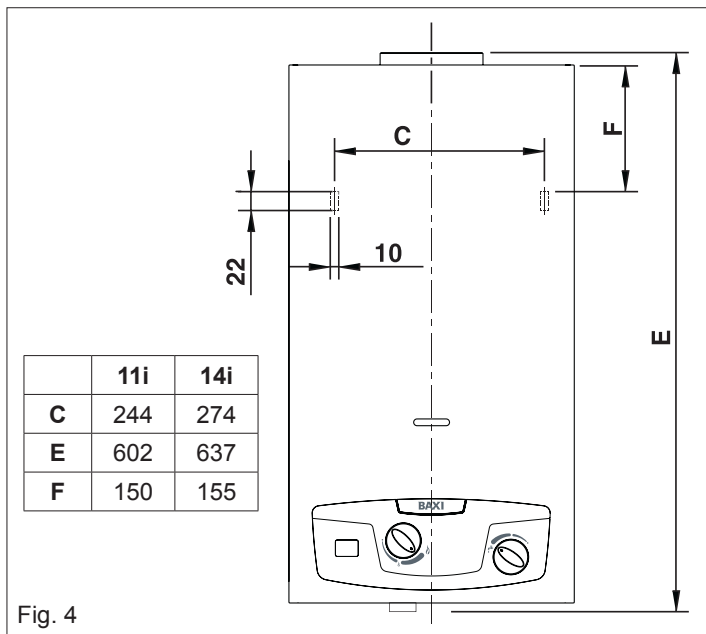

Fig. 4
- Fig. 4 displays the dimensions necessary for wall mounting